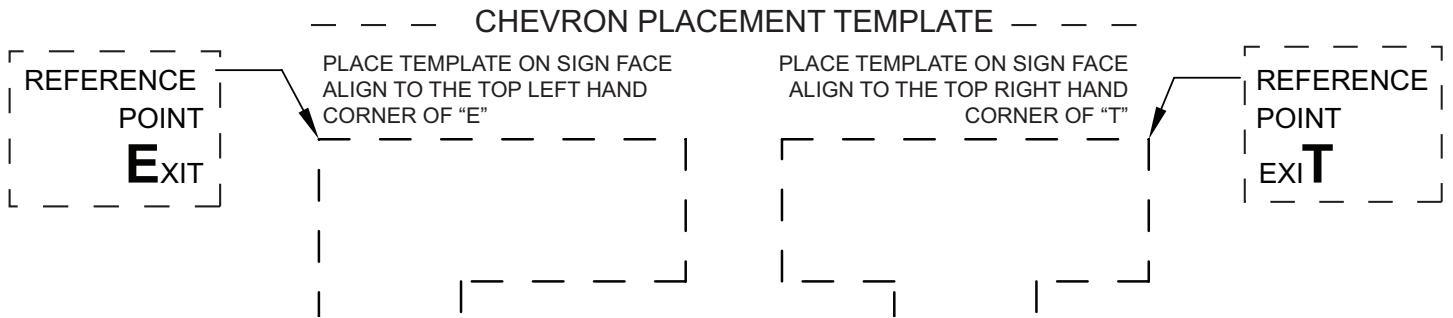

Figure 1
1. For models OTE-SP, plug the battery into the circuit board per (Figure 1) self-powered sign.